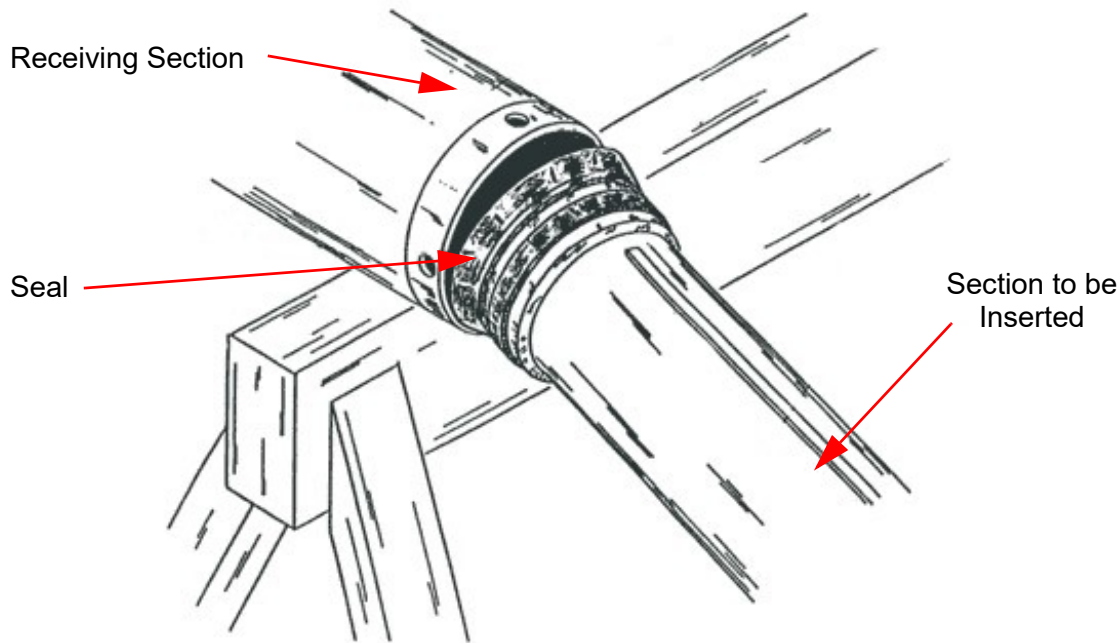

Figure 8-2 Seal Replacement
13. Using a second person or a brace to support the top end, hold the next tube so that the top end of the tube is at a lower elevation than the seal end. Rest the lip of the seal on the inside of the base tube or receiving tube (Figure 8-2). Use care to follow all applicable lifting precautions whenever lifting the mast or components of the mast.